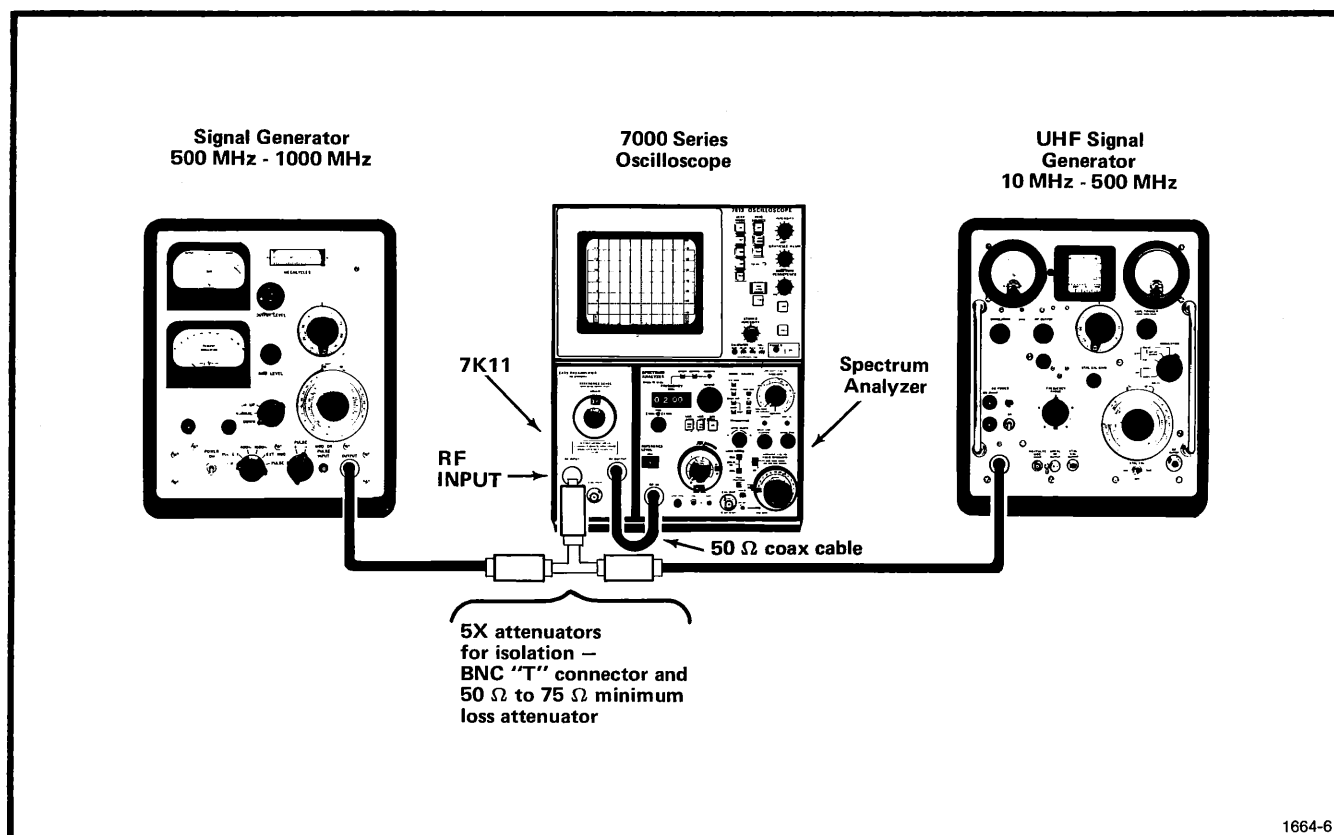

Fig. 3-3. Equipment setup and connections necessary to measure intermodulation distortion.
a. Apply two signals within the frequency range of the 7K11 and separated approximately 2 MHz to 10 MHz, through two 5X attenuators (for isolation), a BNC "T" connector, then through a 50 Ω to 75 Ω Minimum Loss Attenuator, to the 7K11 RF INPUT. Fig. 3-3 illustrates this setup.